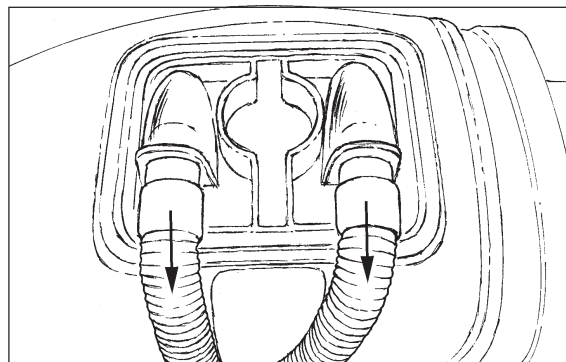

Figure 7
3. Disconnect the hoses from the recovery lid (See Figure 7.)